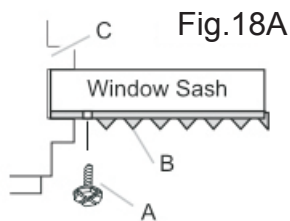
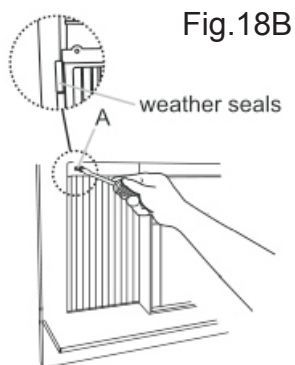

Fig.18A
Fig.18B
2. Use a  $1/8$ " drill bit to drill a starter hole through the hole in the top leg of each window filler panel and into the window sash (Fig. 18A and Fig. 18B). Connect with one  $3/4$ " (or  $1/2$ " ) long hex head screw.